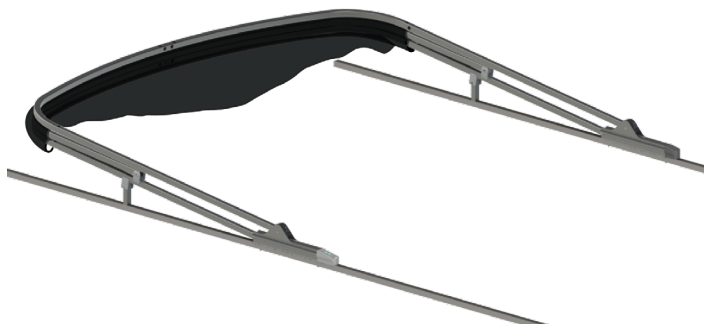

Fig.37
4. Place the rear frame and canvas in the down position (**Fig.37**).